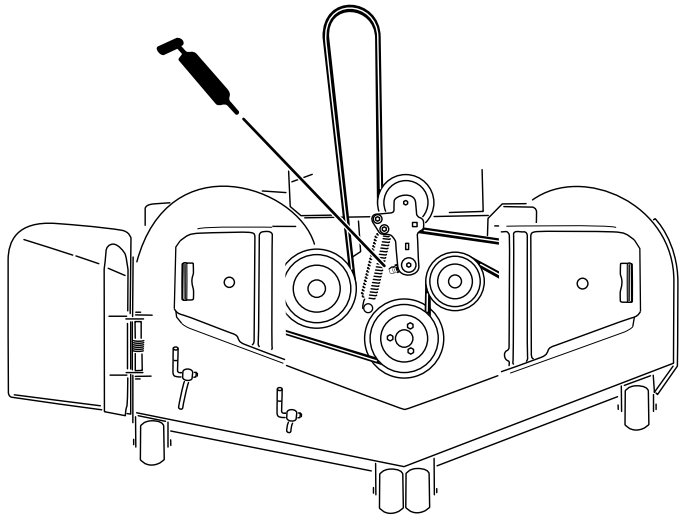

Figure 45
3. Grease the mower deck idler-pulley pivot until grease comes out the bottom (Figure 45).